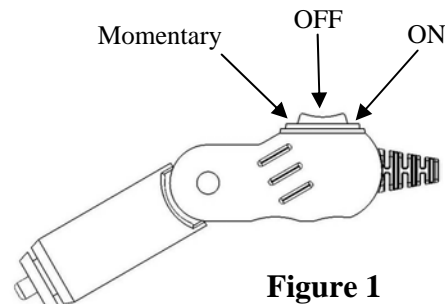

Figure 1
- The switched version of the 360 Star is operated from the 3-position switch located on the cig plug (see figure 1).